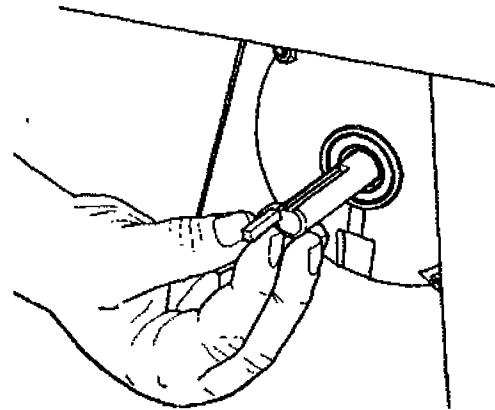

Fig. 28
35. Insert a key (110) into the slot of the motor's drive shaft, as shown in Fig. 28.